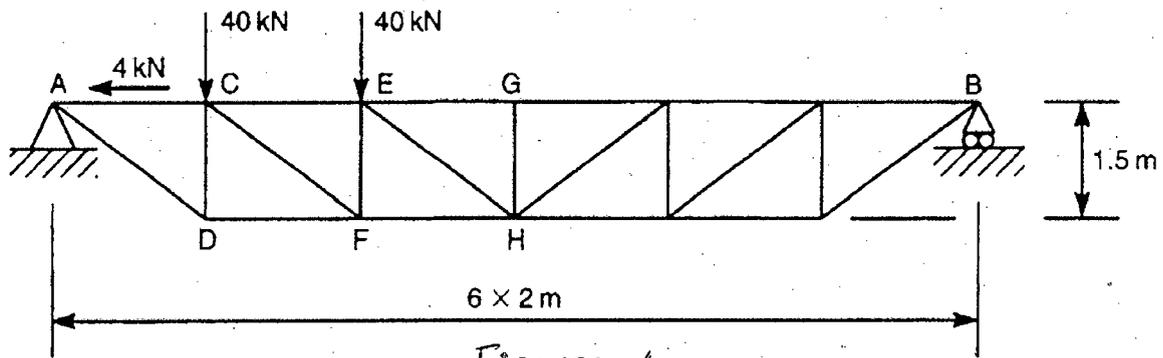

Figure 1
1. (a) A 6-storied RC hospital building has a plan dimension of 150 ft × 120 ft and typical floor-to-floor height of the building is 12 ft except the ground floor. The height of the ground floor is 15 ft. The building is an intermediate moment resisting frame having slab thickness of 8 inch. Floor finish, partition wall load, service live load are 30 psf, 70 psf and 60 psf, respectively. Draw shear force and bending moment distributions along the height of the building for Earthquake resistant design. Given: $R = 5$, $I = 1.50$, Soil type SC and $Z = 0.28$. (38)
- (b) Calculate the force in the member FH of the truss as shown in Figure 1. Note that the horizontal load of 4 kN is applied at the joint C. (8 $\frac{2}{3}$)